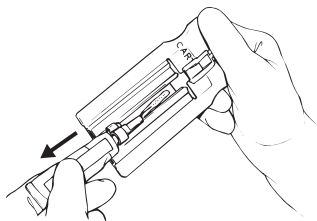

FIGURE 11
- 6b. Apply a continuous thin Gel bead onto each strip (See figure 11).